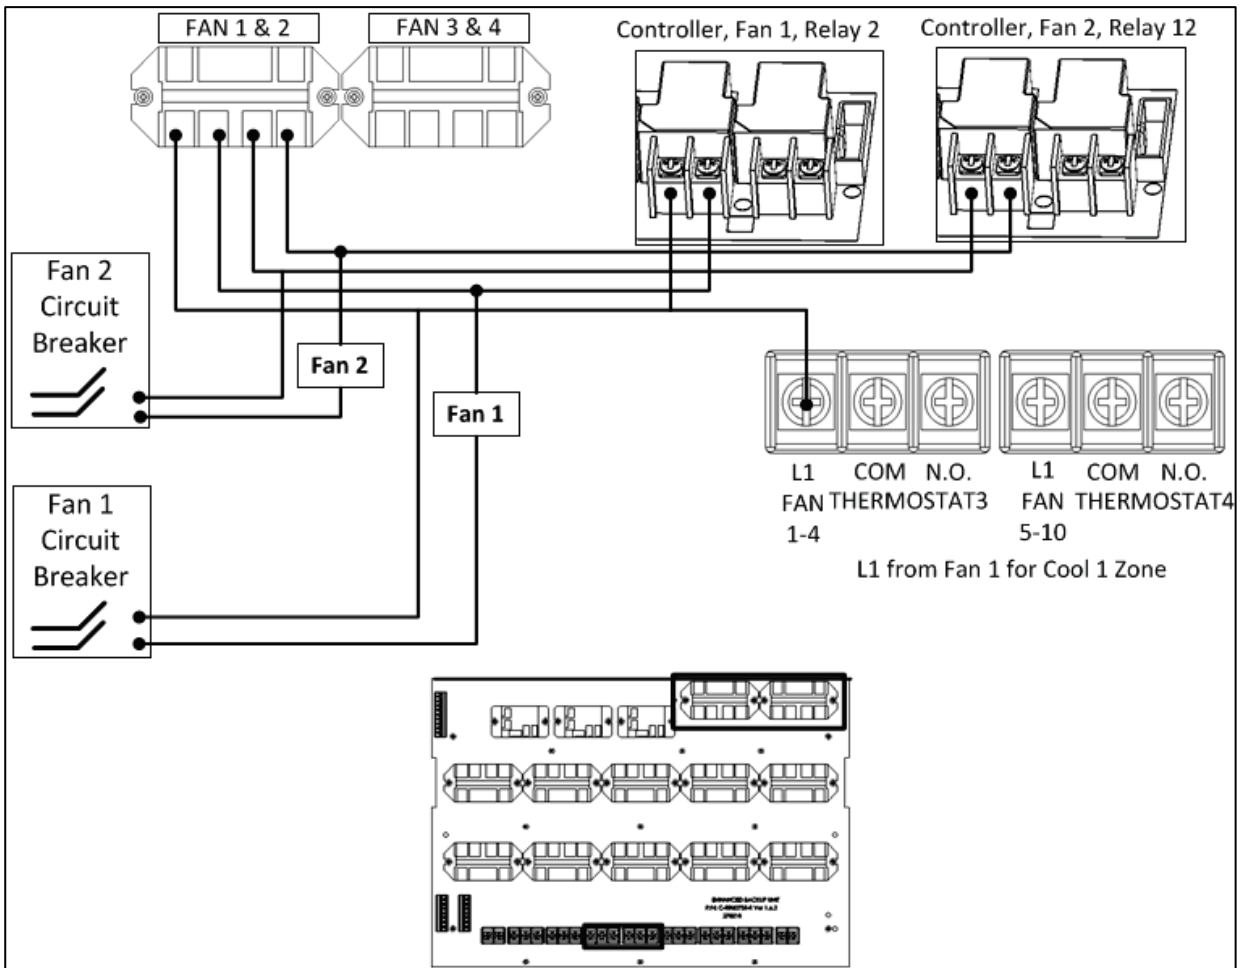
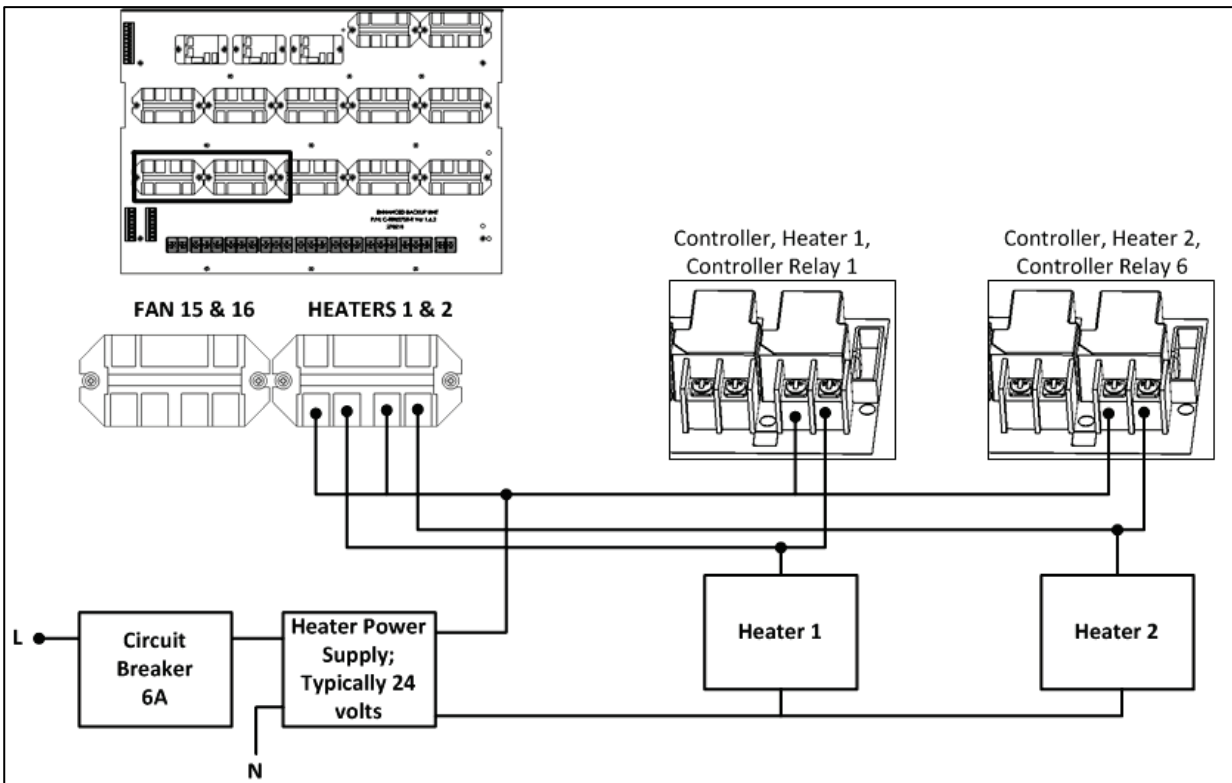
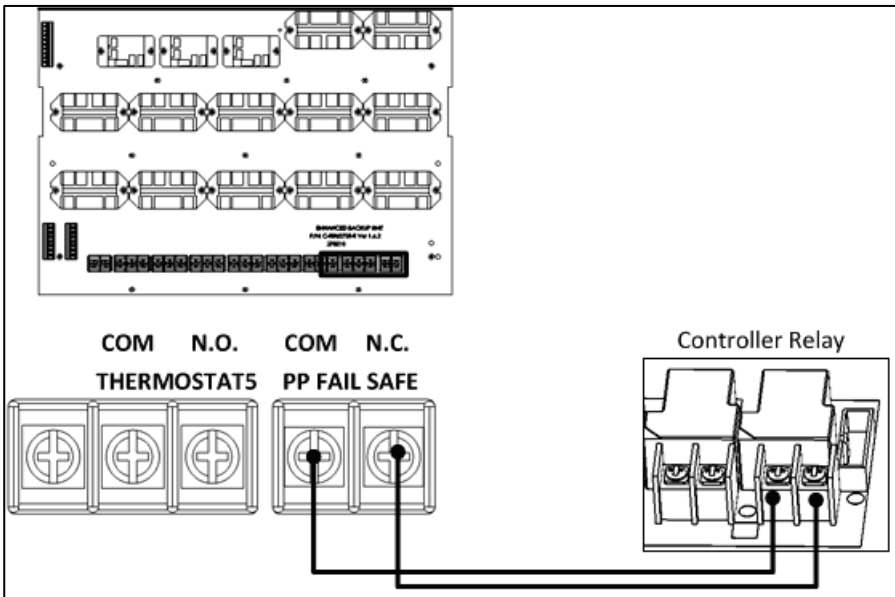

Figure 6: Fan and Cooling Wiring
Figure 7: Heater Wiring
Figure 8: Fail Safe Wiring
- Figure 6: Vent Machine Wiring
- Figure 7: Fan and Cooling Wiring
- Figure 8: Heater Wiring
- **Section 2 - Fans and heater contacts:** Designed to define the relays that activate the cool pad, fans, and the heaters. Figure 6, Figure 7, and Figure 8 focus on defining the connections to the controller and other equipment.